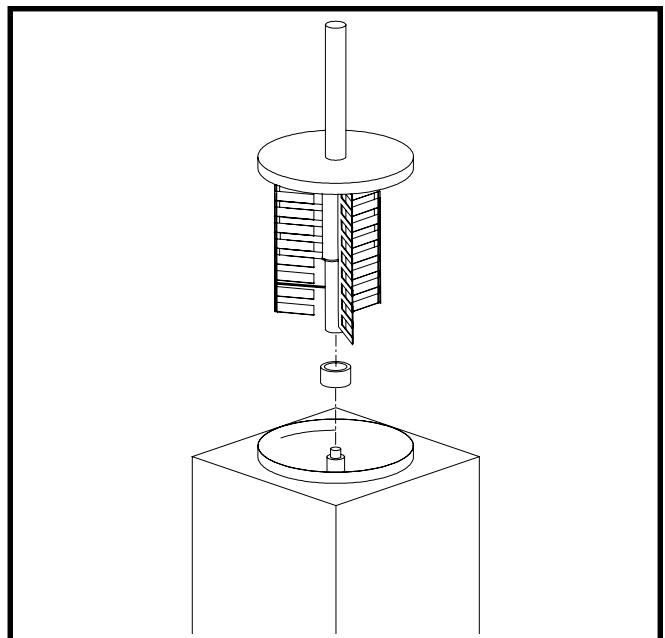
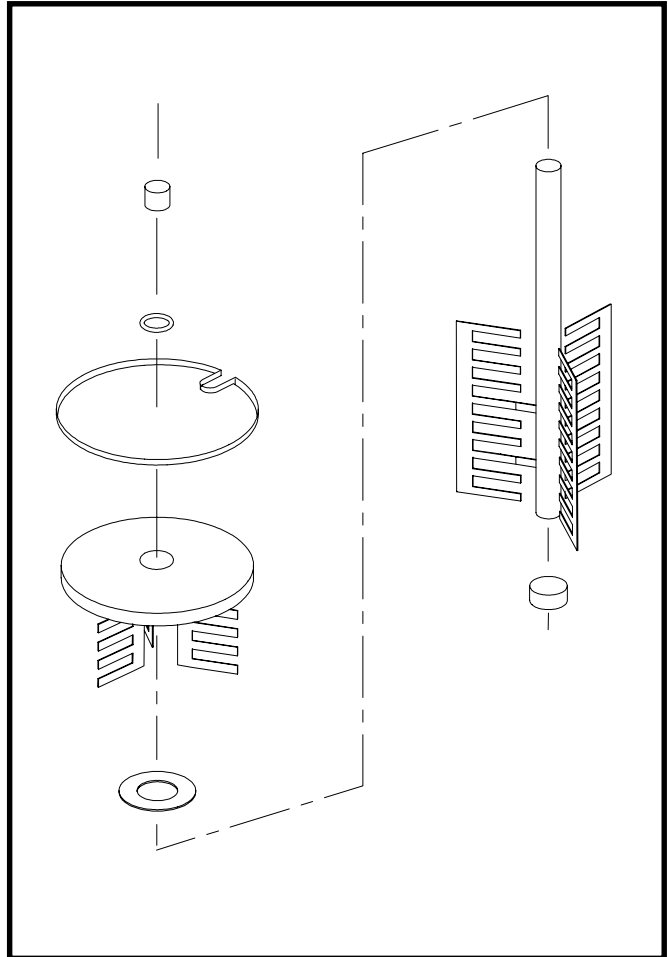

Figure 20
Figure 23
4. Once the divider plate and agitator assembly are lifted off the vertical product cylinder center post and out of the product cylinder, remove the divider plate assembly and anti-lift disc. Remove the plastic agitator bushing from the bottom of the product cylinder center post by lifting up and out of the product cylinder (Fig. 20). - Refer to Figure 23 for an exploded view.
5. Assemble the anti-lift disc onto the agitator (See Fig.23).